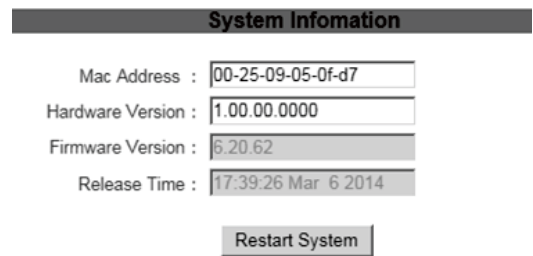

Figure 32
10. Click "System", click "Restart System" button (Figure 32), when it appears "for about 10s", the set up complete (Figure 33).